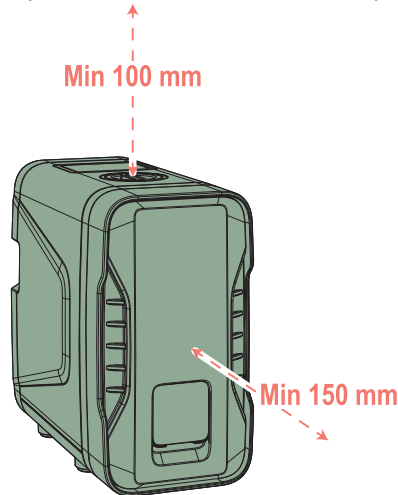

Fig. 9 Minimum clearances to be ensured
- a minimum clearance of 10 cm above the pump to allow the non-return valve to be removed for cleaning (see **Fig. 9**).
- a minimum clearance of 15 cm in front of the pump to allow access to the motor shaft (see **Fig. 9**).